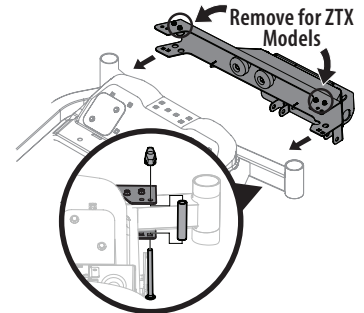

Figure 4
**IMPORTANT:** The frame mount hardware installed on the front mounting bracket is for ZT models only. For ZTX models, remove 4 rubber spacers and associated hardware prior to attaching large mounting bracket to tractor frame. See circles and note in Figure 4.
- Mount front mounting bracket assembly (689-02459) by aligning rear of assembly with front of tractor and sliding upper lip over and lower lip under frame. See Figure 4.
- Working from the bottom up, secure bracket to tractor frame with two carriage bolts (710-1649), two spacers (750-06527) and two wing knobs (720-04186) from hardware pack 689-02139. See Figure 4 inset.
**NOTE:** Hole placement differs between models. Use inner holes for ZT models and outer holes for ZTX models. See Figure 4.